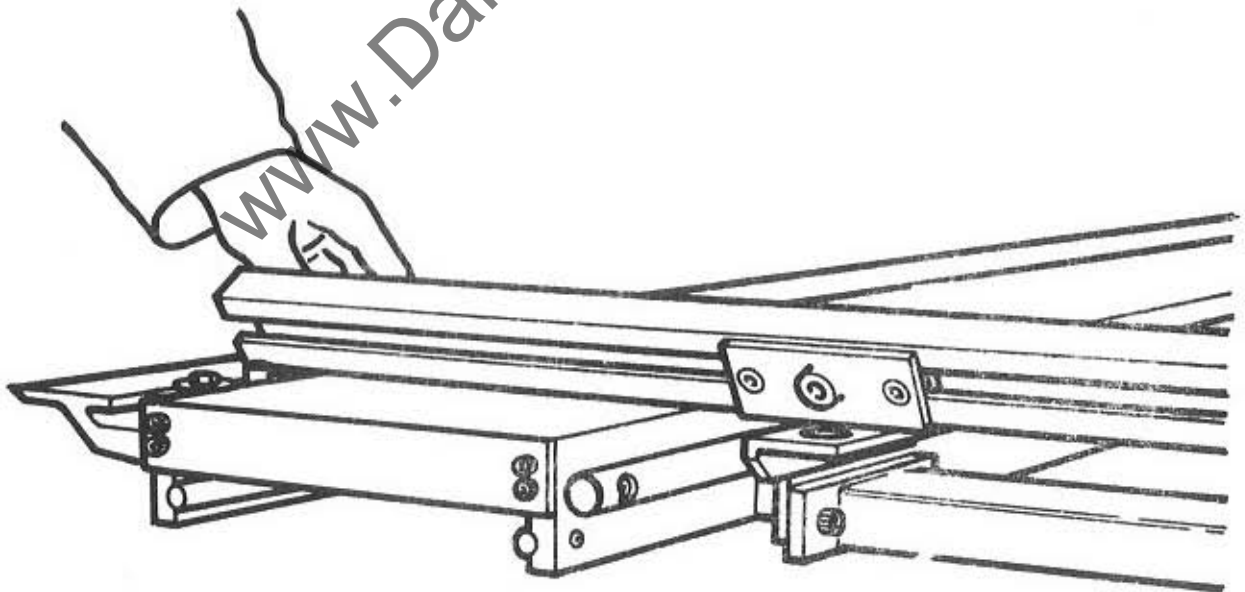

FIG 6
1. Locate spigot on bottom of fence into hole in extension table as shown in FIG 6.